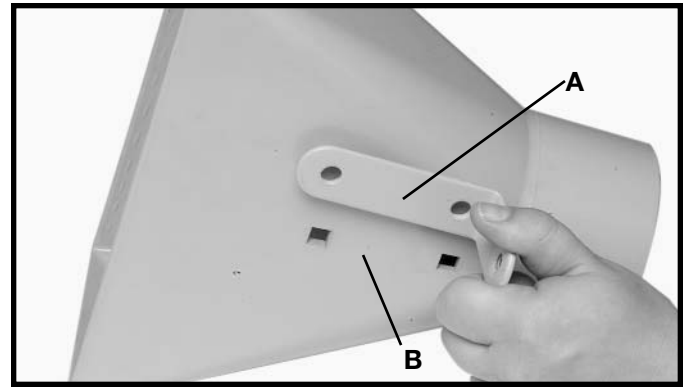

Fig. 10
4. Align the two holes in the intake support angle brace (A) Fig. 10 with the two holes in the intake funnel (B).